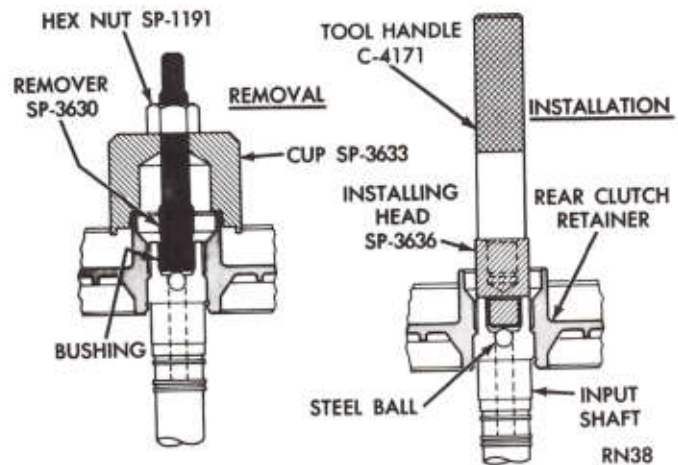

Fig. 31—Replacing Input Shaft Bushing (A-727)
(1) Clamp input shaft in a vise with soft jaws, being careful not to clamp on seal ring lands or bearing journals.
(2) Assemble the remover Tool SP-3630, cup Tool SP-3633, and hex-nut Tool SP-1191 (Fig. 31).
(3) With cup held firmly against clutch piston retainer, thread remover into bushing as far as possible by hand.
(4) Using a wrench, screw remover into bushing 3
(5) Turn hex nut down against cup to pull bushing from input shaft.
(6) Thoroughly clean input shaft to remove chips made by remover threads. Make certain small lubrication hole next to ball in end of shaft is not plugged with chips. Be sure no chips are lodged next to the steel ball.
(7) Slide a new bushing on installing head Tool SP-3636 and start them in the bore of input shaft.
(8) Stand input shaft upright on a clean, smooth surface and install handle Tool C-4171 in the installing head (Fig. 31). Drive bushing into shaft until tool bottoms.
(9) Thoroughly clean input shaft and clutch piston retainer before assembly and installation.